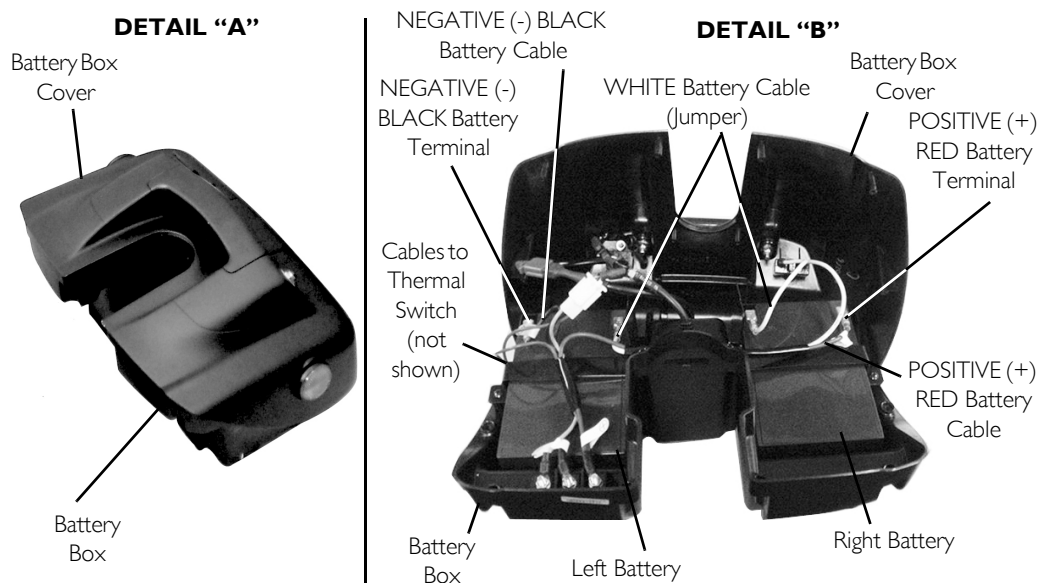

FIGURE 10.3 Removing/Installing the Batteries
When connecting the battery cables to the batteries, the battery cables **MUST** be connected to the battery terminals/posts as shown in FIGURE 10.3 - otherwise damage to the battery may result.
For this procedure, refer to FIGURE 10.3 on page 41.
3. Remove the twelve mounting screws (not shown) that secure the battery box top to the battery box (Detail “A” of FIGURE 10.3).
4. Disconnect the wiring harness from the batteries by holding the connectors and pulling them in the following order (Detail “B” of FIGURE 10.3):
3. Connect the wiring harness to the batteries in the following order (Detail “B” of FIGURE 10.3):
4. Replace the top of the battery box and secure with the twelve mounting screws (Detail “A” of FIGURE 10.3). Securely tighten.